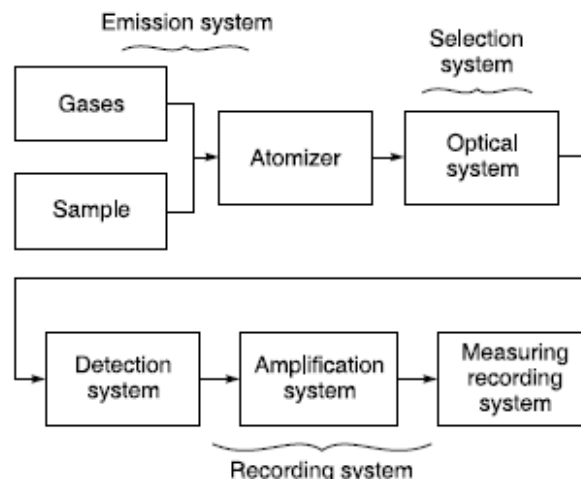

Fig. 5.6.1 Essential parts of a flame photometer
- ❑ The flame photometer, shown in Figure 5.6.1 measures the color intensity of a flame that is supported by oxygen and a specific substance.
- ❑ A flame photometer is an analytical instrument used to measure the concentration of certain metal ions, such as sodium (Na), potassium (K), calcium (Ca), and lithium (Li), in a sample.
A flame photometer has three essential parts (Fig 5.6.1). These are: